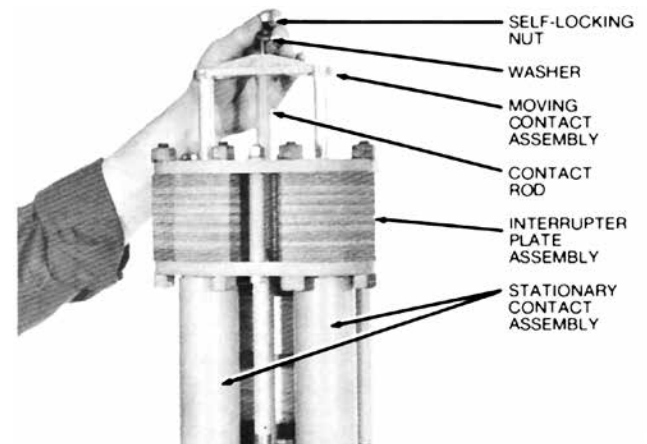

Figure 7. Removing contact yoke assembly
1. Remove self-locking nut and washer from end of contact rod (Figure 7) and lift off the moving contacts.